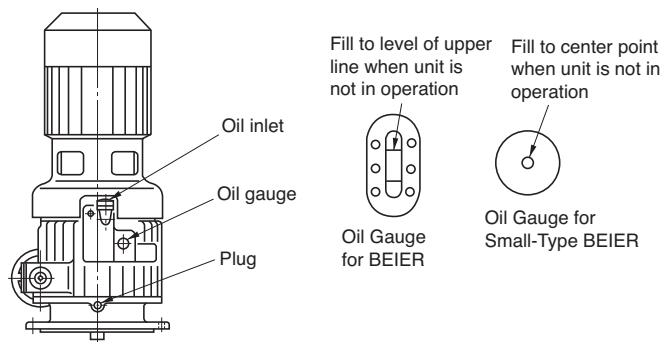

Fig.14
**Oil supply for Vertical Type** (Refer to Fig.14)
- ① Remove the oil filler plug.
- ② Fill oil through oil filler port while checking oil level by the oil gauge.
- ③ Fill oil in place on the oil gauge.
- ④ Replace the oil filler plug.